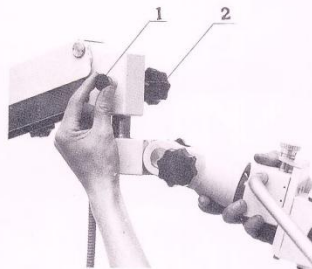
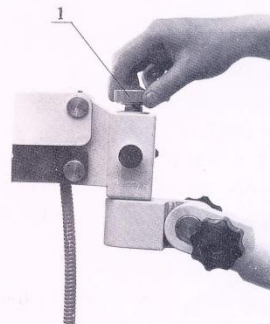

Fig.4
Fig.5
- (2) Switch off the suspension screw (Fig.5-1). Pull out the locking pin (Fig.4-1) with one hand, and hold the microscope connection (refer to Fig.4) with another hand. Insert the axis into the hole of arm from the bottom up. Loosen the locking pin, it will spring back to fit in the groove. Finally, fasten the suspension screw (refer to Fig.5)